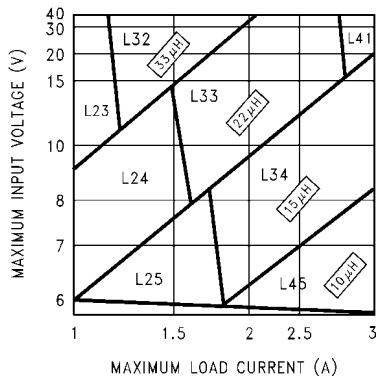
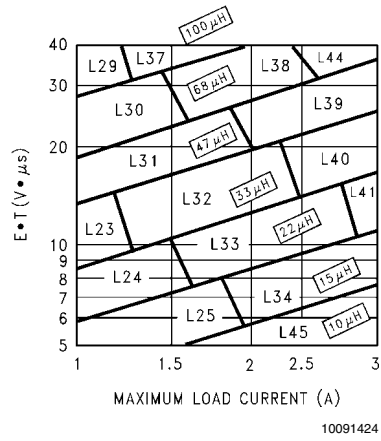

FIGURE 3. LM2676-3.3
FIGURE 6. LM2676-ADJ
Step 3: Determine the inductor required by using one of the four nomographs, *Figure 3* through *Figure 6*. Table 1 provides a specific manufacturer and part number for the inductor.
Step 5: Determine an input capacitor from Table 4 for fixed output voltage applications. Use Table 2 to find the specific capacitor type. For adjustable output circuits select a capacitor from Table 2 with a sufficient working voltage (WV) rating greater than $V_{in\ max}$, and an rms current rating greater than one-half the maximum load current (2 or more capacitors in parallel may be required).
Step 3: Use the nomograph for the 3.3V device, *Figure 3*. The intersection of the 16V horizontal line ($V_{in\ max}$) and the 2.5A vertical line ($I_{load\ max}$) indicates that L33, a 22 μ H inductor, is required.
Step 3: To use the nomograph for the adjustable device, *Figure 6*, requires a calculation of the inductor Volt•microsecond constant ($E \cdot T$ expressed in $V \cdot \mu S$) from the following formula:
Using *Figure 6*, the intersection of 27V• μ S horizontally and the 2A vertical line ($I_{load\ max}$) indicates that L38, a 68 μ H inductor, should be used.
Important Note: When using the adjustable device in low voltage applications (less than 3V output), if the nomograph, Figure 6, selects an inductance of 22 μ H or less, Table 6 does not provide an output capacitor solution. With these conditions the number of output capacitors required for stable operation becomes impractical. It is recommended to use either a 33 μ H or 47 μ H inductor and the output capacitors from Table 6.